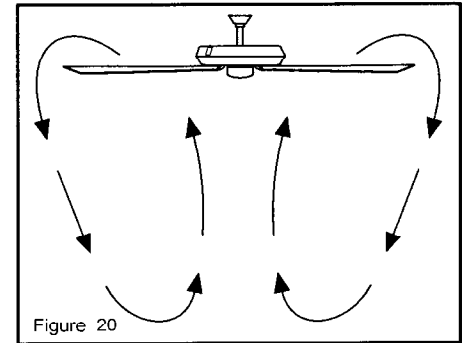

Figure 20
**Cool weather – (Reverse)** An upward airflow moves warm air off the ceiling area as shown in Figure 20. This allows you to set your heating unit on a lower setting without affecting your comfort.